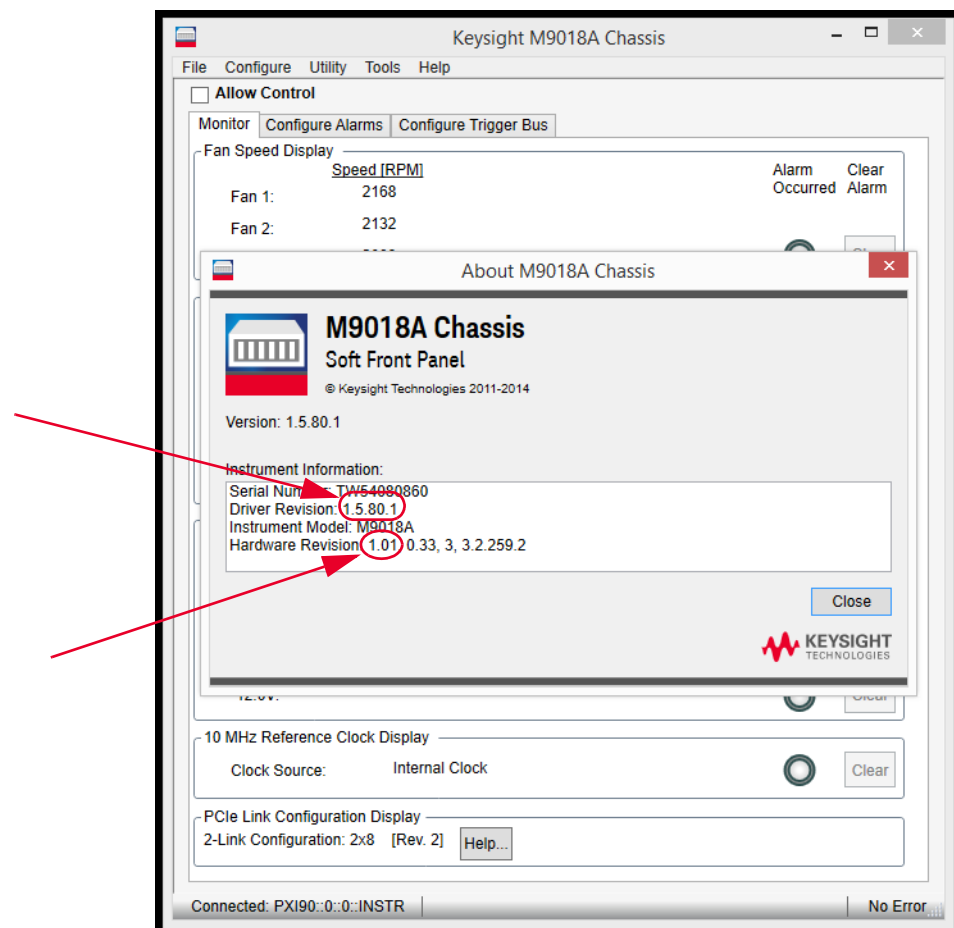

Figure 1 M9018A Hardware Revision Number from SFP Help About
- 2 In the SFP, click **Help > About**. Check the Hardware Revision number in the **About** window to make sure it's 1.01. If it is 1.07 or greater, you do not need to update the Hardware Revision. See Figure 1 below.
- 3 Also, check the Driver Revision in the **About** window to make sure it's 1.5.80.1 or greater. If it is not 1.5.80.1, change the chassis IVI driver to version 1.5.80.1, before proceeding. Refer to the M9018A product website for the chassis driver download (www.keysight.com/find/M9018A). See Figure 1.